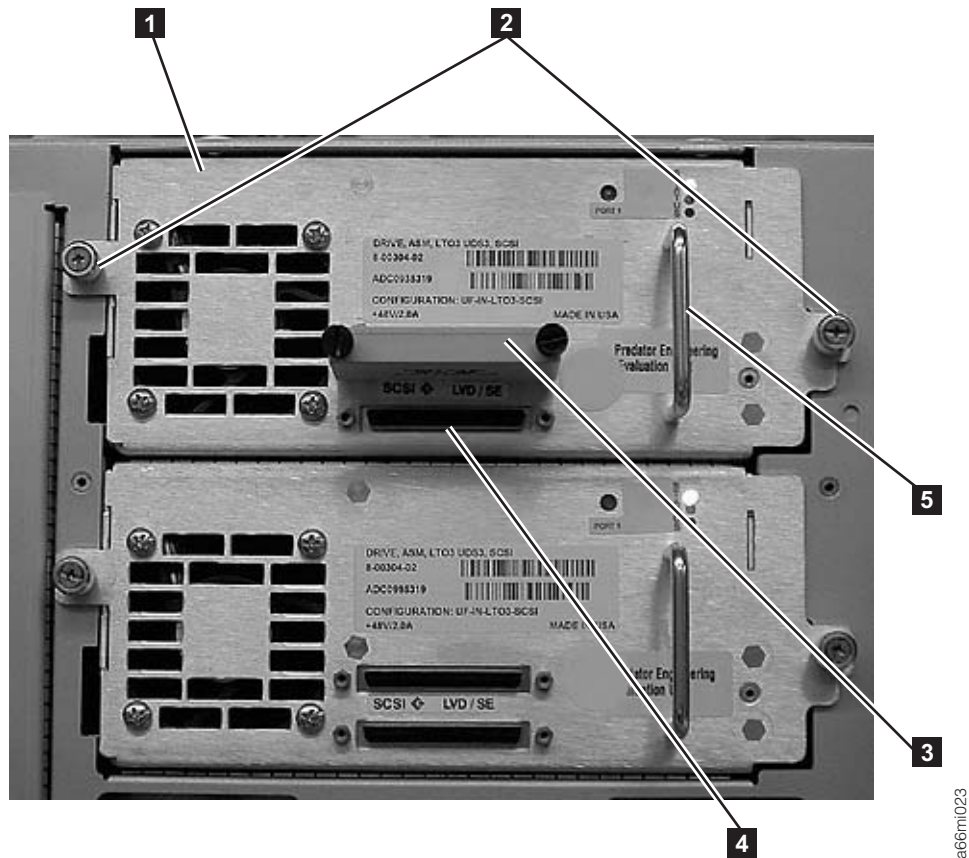
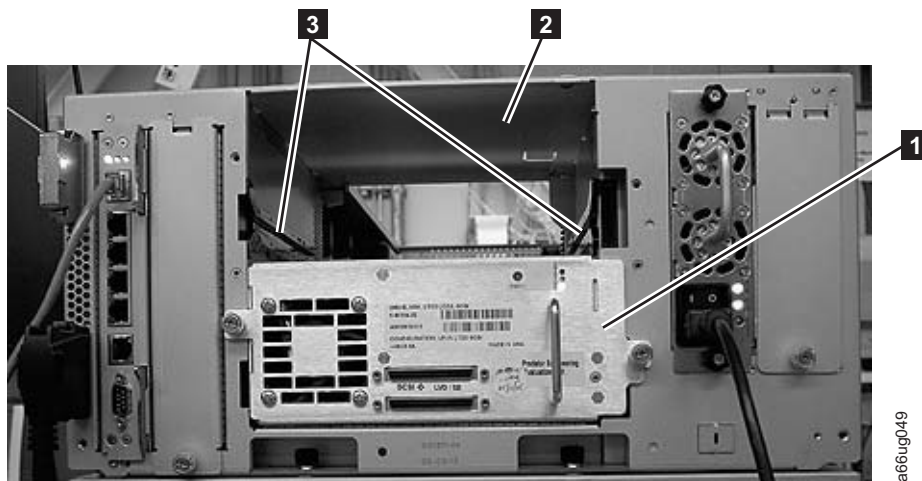

Figure 11-6. Drive sled (detail)
Figure 11-8. Drive sled slot
3. Loosen the two thumb screws (2 in Figure 11-6) that hold the drive in place by turning them counterclockwise.
4. Slide the drive out of the library module. Grasp the handle (5 in Figure 11-6) and slowly pull the drive toward you, while supporting the drive sled from underneath.
1. Align the drive sled with the guide rails and guide slots along the tracks (**3** in Figure 11-8) in the open drive sled slot (**2** in Figure 11-8). Grasp the handle (**5** in Figure 11-6 on page 11-9) and slowly slide the drive sled into the CM, while supporting the drive sled from underneath.
2. Tighten the two thumb screws (**2** in Figure 11-6 on page 11-9) that hold the drive sled in place by turning them clockwise.
- a. For a SCSI drive sled, plug the cable and terminator into the drive sled. Tighten the thumb screws that hold the SCSI cable (**4** in Figure 11-6 on page 11-9 shows the SCSI receptacle) and terminator (**3** in Figure 11-6 on page 11-9) in place by turning them clockwise.